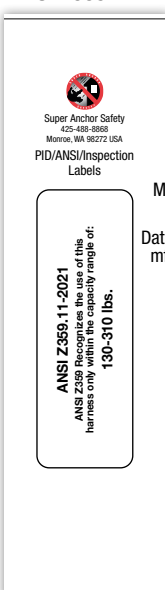

Fig.2
- 2) Connect chest strap buckle and adjust the width so straps are aligned (see Fig.2). Adjust the height by moving the webbing through the slots in the chest strap sliders (see Fig.3). The chest strap should be about 8-12" below the shoulders (see Fig.2).